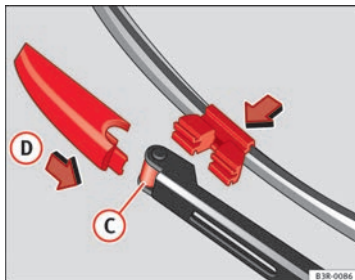

Fig. 185 Fitting the wiper blade
- Fit the new wiper blade into the mounting on the wiper arm ⇒ Fig. 185 (C).
- Slide the retainer catch on the wiper blade in direction (D) so that it clicks into place on the wiper arm.